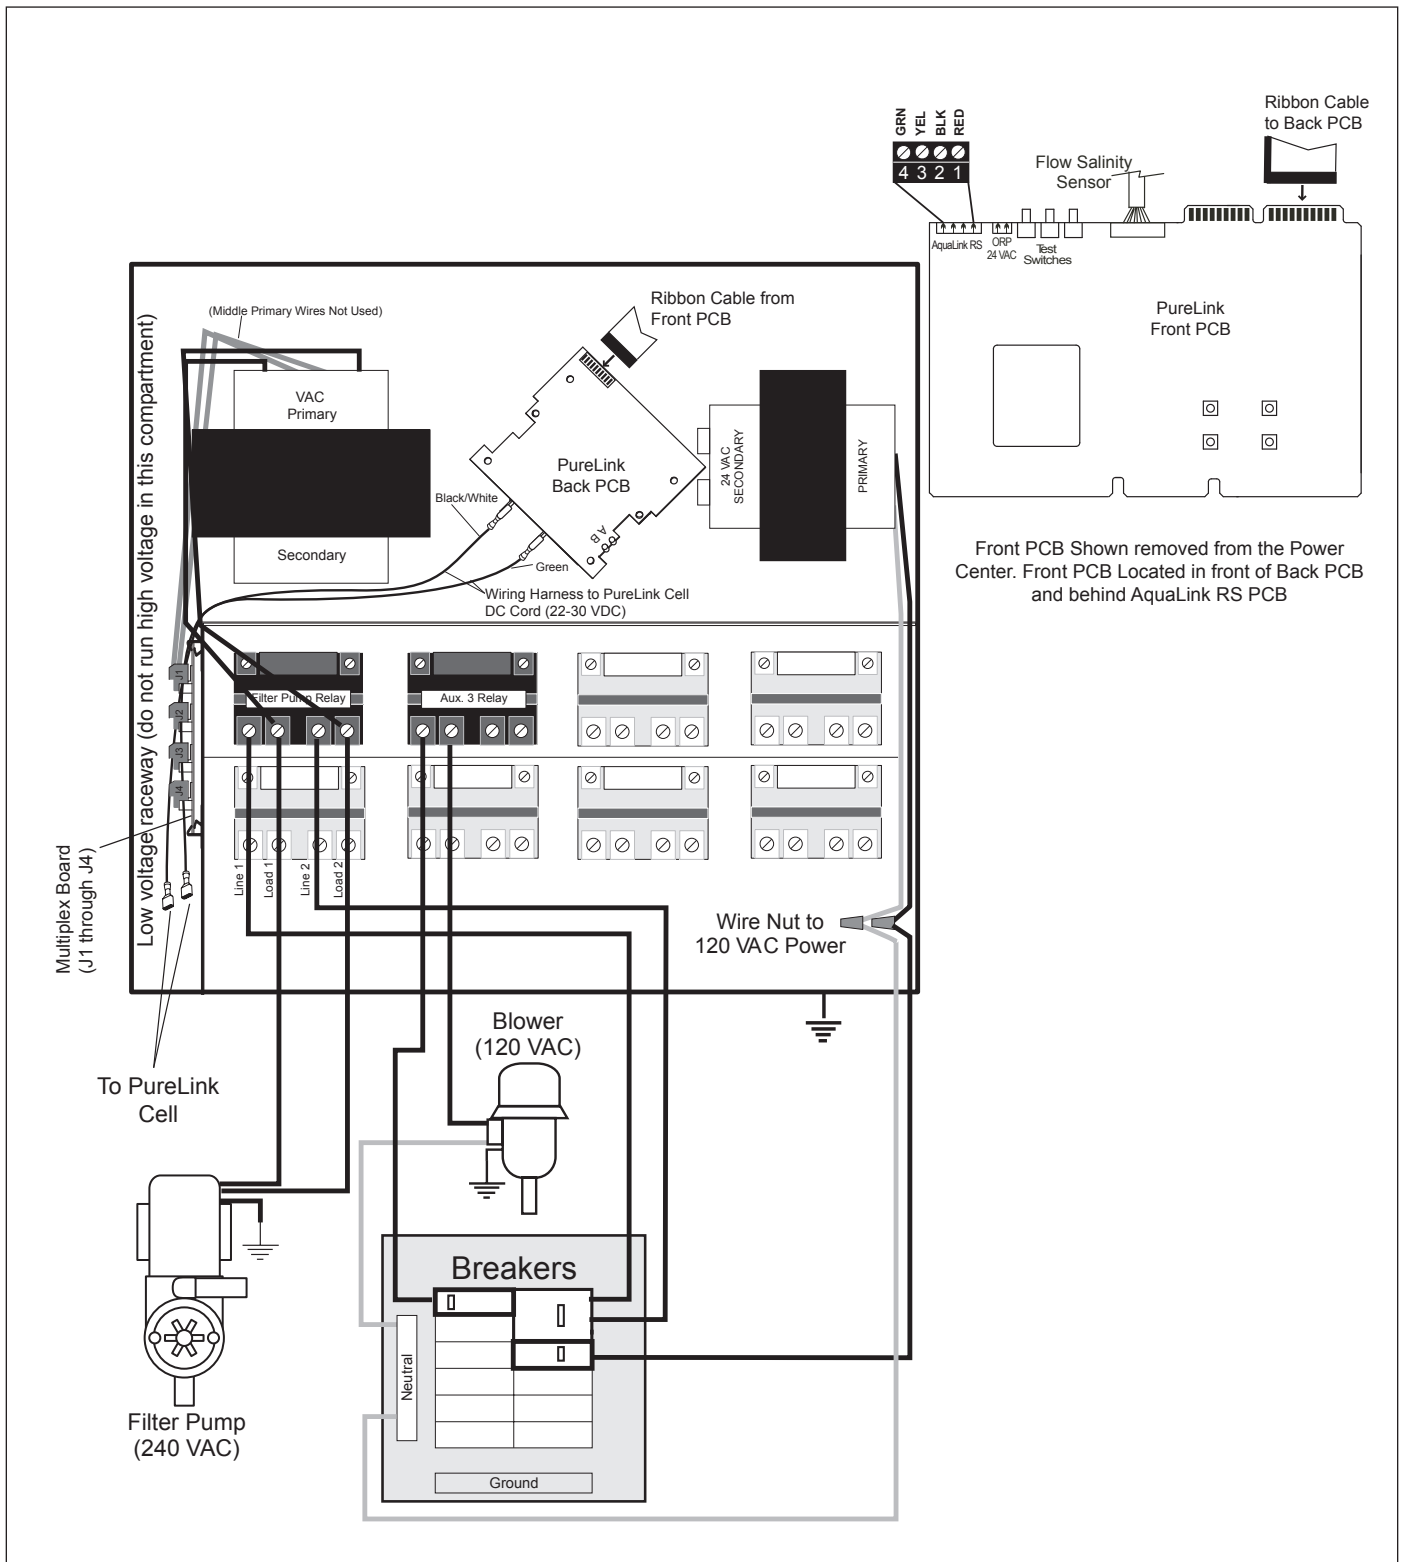

Figure 2a. 230 VAC Wiring Diagram for the AquaLink RS PureLink System
9. Install the strain relief provided with the PureLink Cell Kit into the low voltage knock out. Feed the connector end of the Flow/Temp/Salinity Sensor cable through the DC cord strain relief fitting. **Be certain the connector is clean and dry**, then plug the cable into the connector on the power center Printed Circuit Board as shown in Figures 2a and 2b. **(Do not pull Flow/Temp/Salinity Sensor cable too tight, allow a little slack).**
Referring to Figures 2a or 2b, wire the PureLink Power Center transformer to the load side of the filter pump relay.